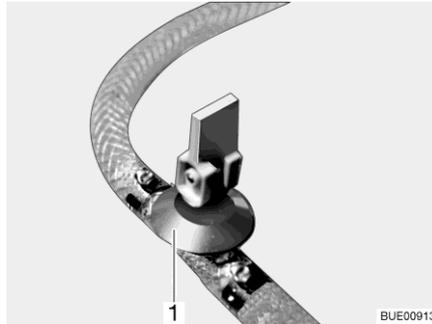
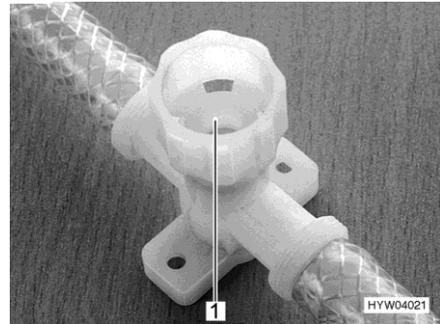

Fig. 267 Drain cock (with rocking lever)
Fig. 268 Drain cock (with twist cap)
- Open all drain cocks. To do this, position the drain cock's rocking lever (Fig. 267,1) vertically or turn the drain cock's cap (Fig. 268,1) in an anti-clockwise direction.